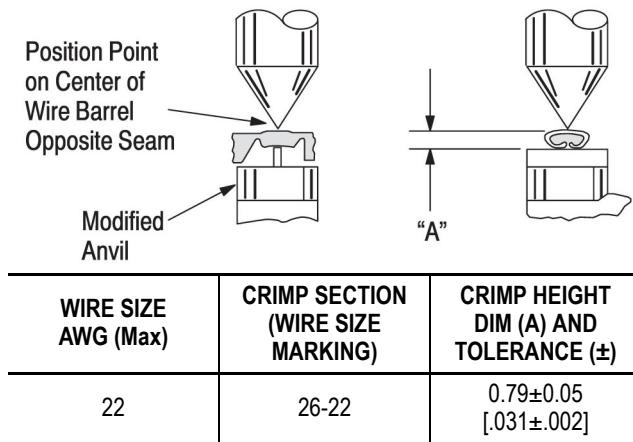

Figure 4
*This tool is provided with a crimp adjustment feature. Initially, the crimp height should be verified as specified in Figure 4. Refer to Section 6, Crimp Height Inspection, and Section 7, Crimp Height Adjustment, to verify crimp height before using the tool to crimp desired contacts and wire sizes.*
1. Refer to Figure 4 and select a wire (maximum size) for the crimp section.
3. Using a crimp height comparator, measure the wire barrel crimp height as shown in Figure 4. If the crimp height conforms to that shown in the table, the tool is considered dimensionally correct. If not, the tool must be adjusted. Refer to Section 7, CRIMP HEIGHT ADJUSTMENT.